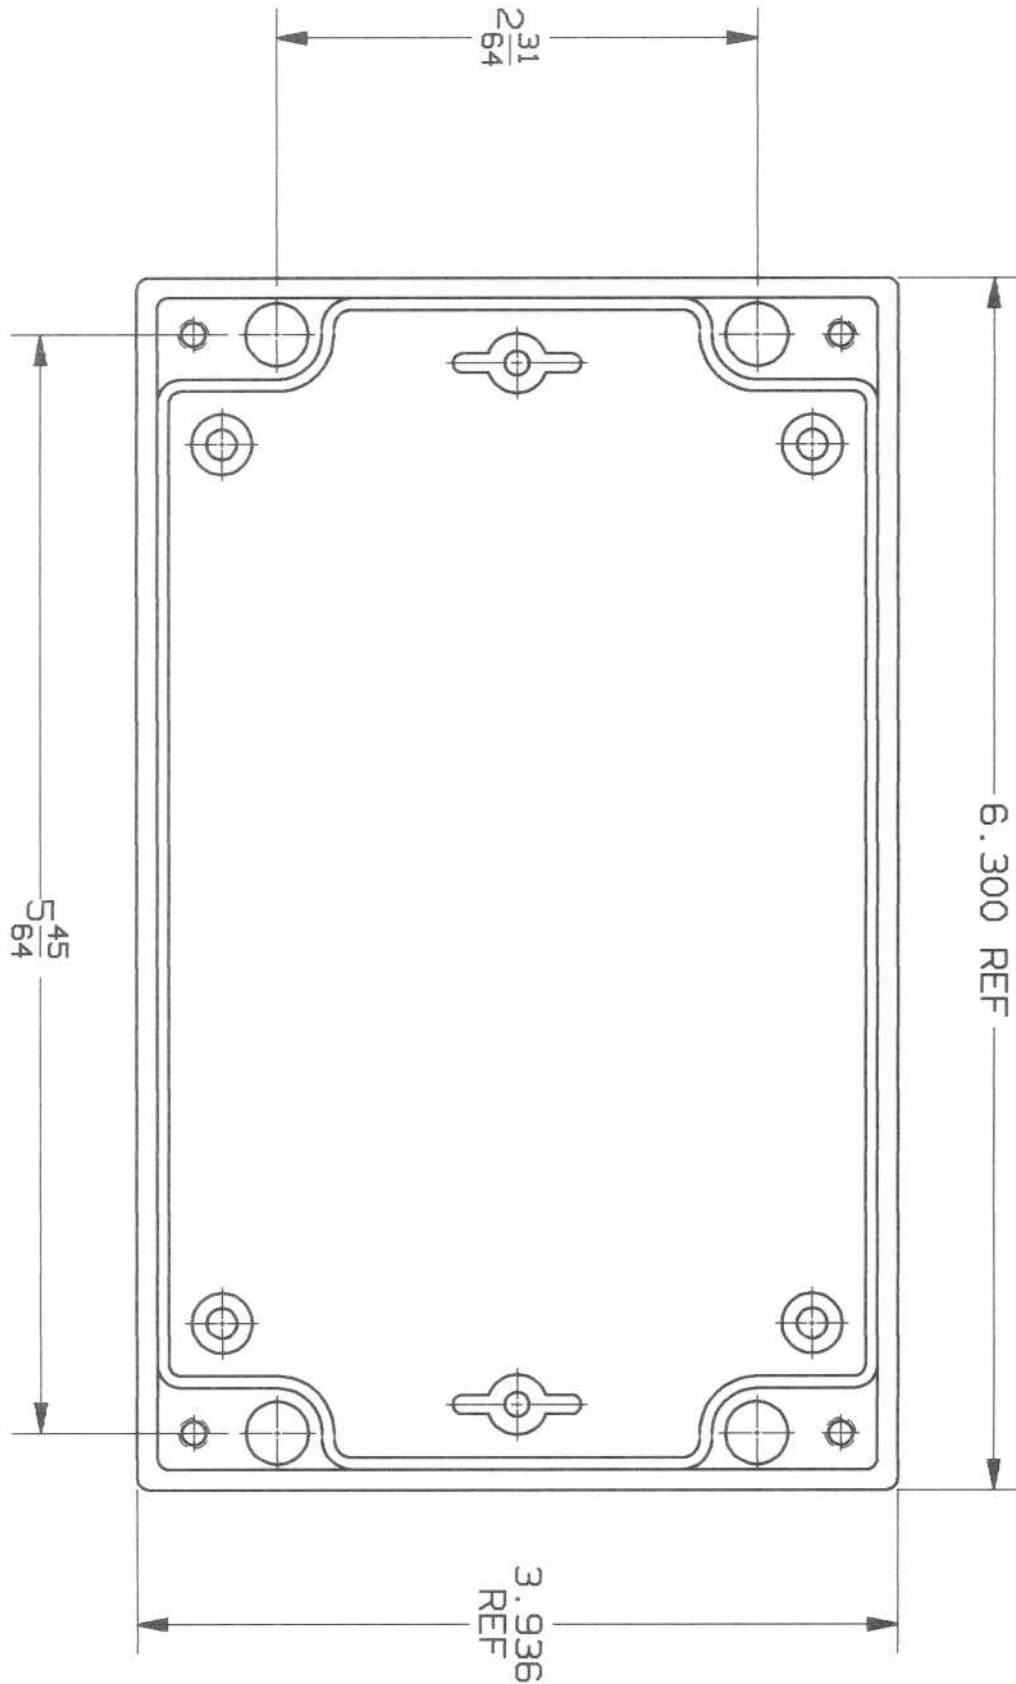

Figure 3: Headset Station Mounting Template
- q Drilling Template (**Figure 3**)